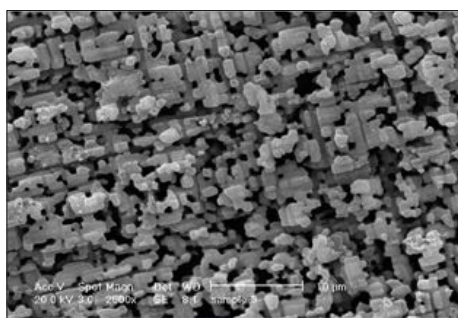

Figure 2. Top view of the etched anode foil.
- **Etching** — high purity aluminum foils of thickness 20 ~ 100  $\mu\text{m}$  are the base material for the later anode- and cathode foils. The etching enlarges the total surface area of the anode material up to a factor of 140 (**Figure 2**), compared to their geometric surface.
Figure 2 shows the electron micrograph of the surface of an etched high voltage anode foil. The homogeneous distribution and the large free diameter of the etched pits allow for good coverage by the oxide layer and full access of the electrolyte to the complete surface area of the anode foil. Already at this early stage of the production it is determined whether the resulting e-cap will be suitable for demanding, pro-